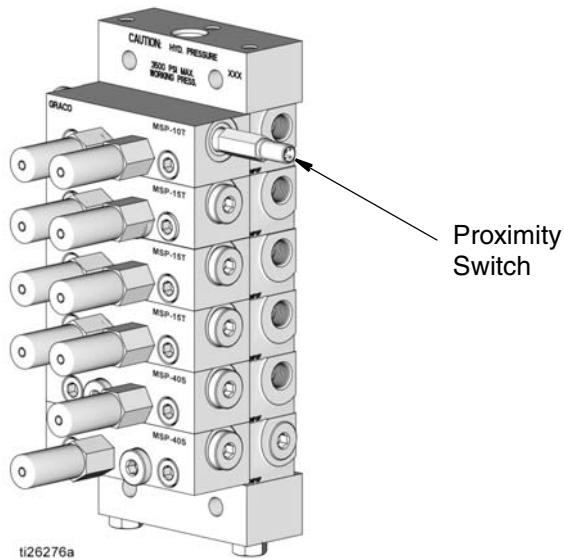

FIG. 58
2. Install the proximity switch to the Master Divider Valve as shown in FIG. 58.